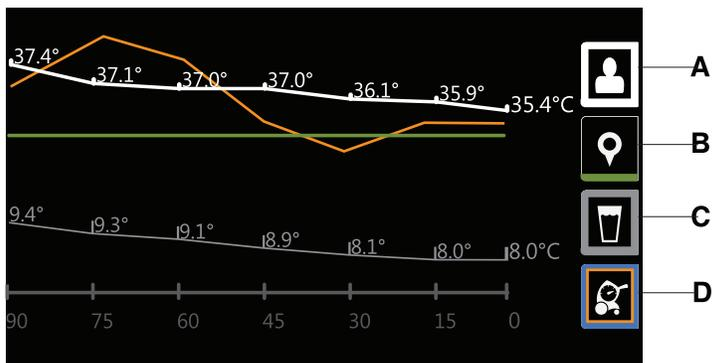

Figure 18: Graphical display
- Primary patient temperature reading from attached probe (A) (Figure 18 on page 32)
- Intermediate target temperature (B)
- Water temperature (C)
- Power level (D)